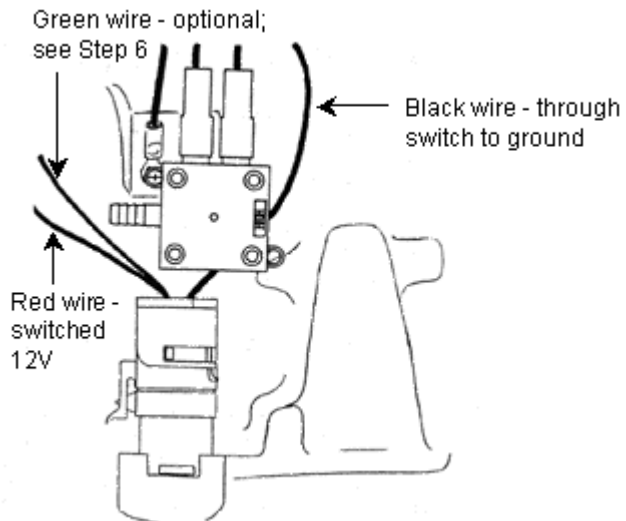

Figure 4 - External Wiring Configuration
Step 5 Figure 4 shows how the external wiring harness is intended to be connected. To use the #4 machine screw to retain the switch to the case, a new 3/32" hole must be drilled in the mount boss. If floor pan clearance is a problem then secure the ring terminal to the mount boss on the case to provide a good ground and secure the switch to the wiring harness with electrical tape so that it does not bang around. Some 2004R's may have an interface problem between the TCI® harness and the OEM case connector. To correct this problem, obtain case connector number 8634383 from a GM dealer. This will allow the TCI harness to snap into place. Using 18-gauge wire, run a 12-volt source to the red wire on the harness (Terminal A). Connect the vacuum switch to a ported vacuum source on the carburetor or throttle body. (If you find that the TCC operation is erratic in your application, then you may try moving the vacuum source to the manifold.) The TCC is now set to engage automatically in 4th gear only when engine vacuum is greater than 8-10 inches. The converter clutch will release when the transmission is down shifted out of 4th gear or engine vacuum falls due to increased throttle.